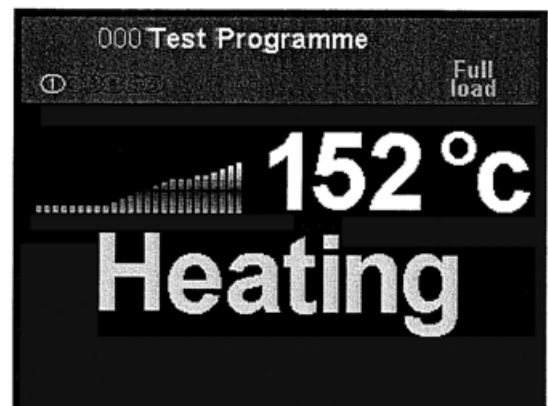

Figure 2-3
6. Start heating the oven by pressing button 4 for a ½ load bake or button 1 for a full load bake. The following screen will appear (Figure 2-3). To stop heating, press the stop/Back button at any time.